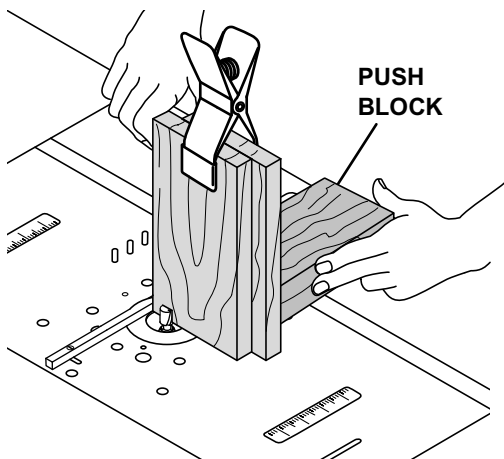

Figure 47
6. With the fence removed and using a block of wood as a push shoe so that the tail is not torn out, run the pieces through the router. This makes your first cut and leaves a tail on piece that was offset. See Figure 47.